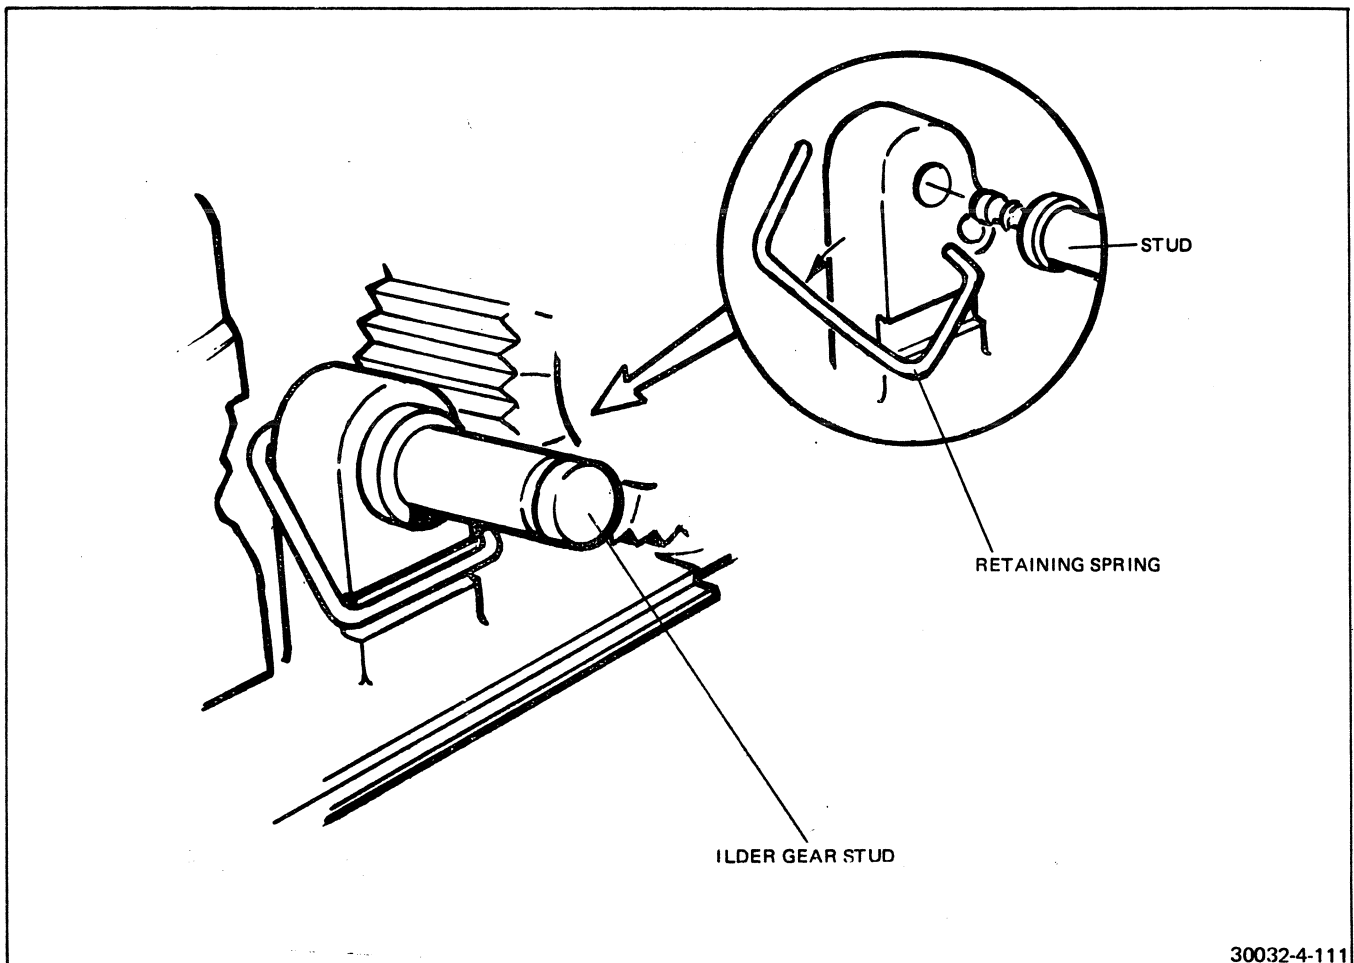

FIGURE 4-111 IDLER GEAR STUD REMOVAL
- a. Use tweezers and remove the square-shaped spring located at the base of the stud. See Figure 4-111.